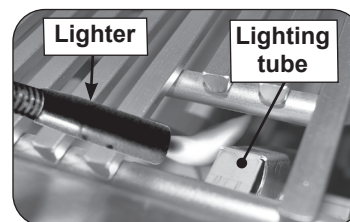

Fig. 31-2 Manual lighting via lighting tube
**CAUTION:** Always wait five (5) minutes for gas to clear after any unsuccessful lighting attempt.
2. Insert either a burning long-barrel butane lighter or a burning long-stem match through the cooking grid opening to the top of the lighting tube (see Fig. 31-2). For backburners, power burners, or infrared burners, hold the flame against the surface of the back burner/power burner/infrared burner.